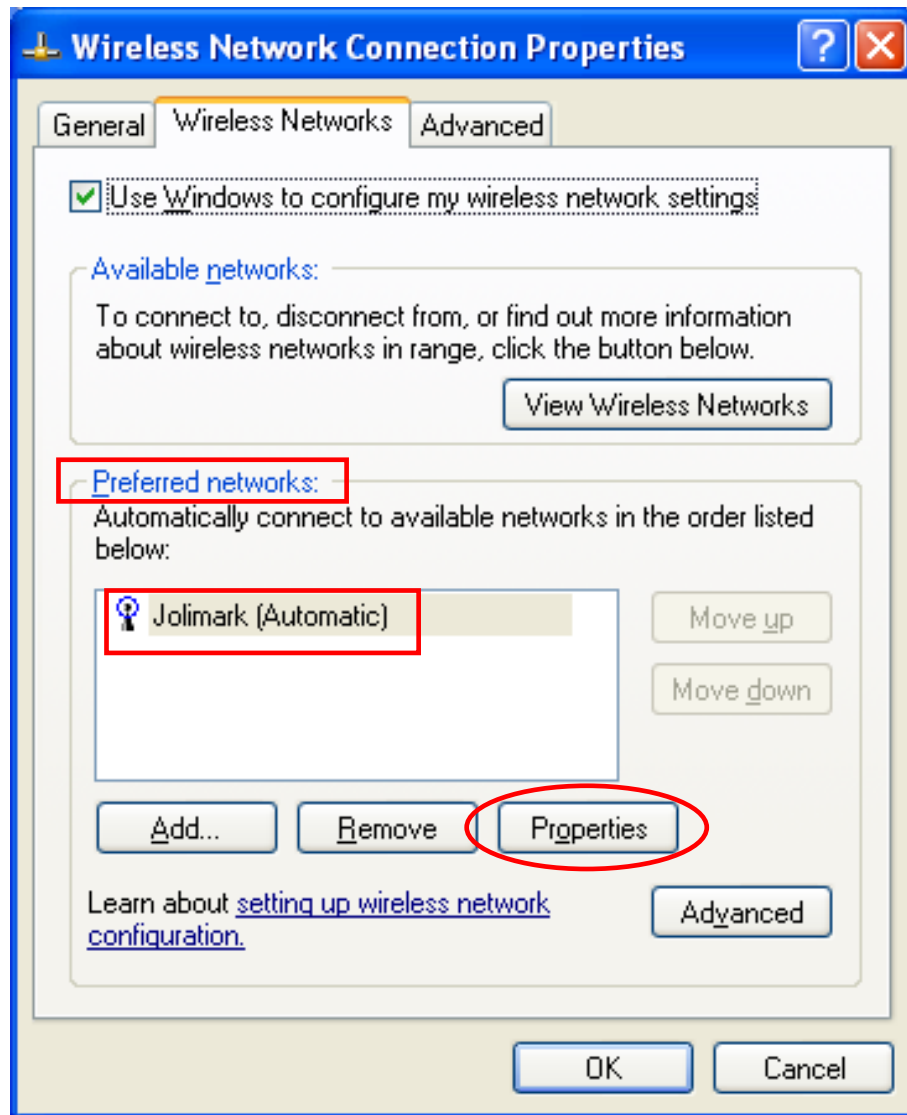

Figure 11
- ④ Select the current wireless network name in “Preferred networks” and then click “Properties” ( as shown in Figure 11).